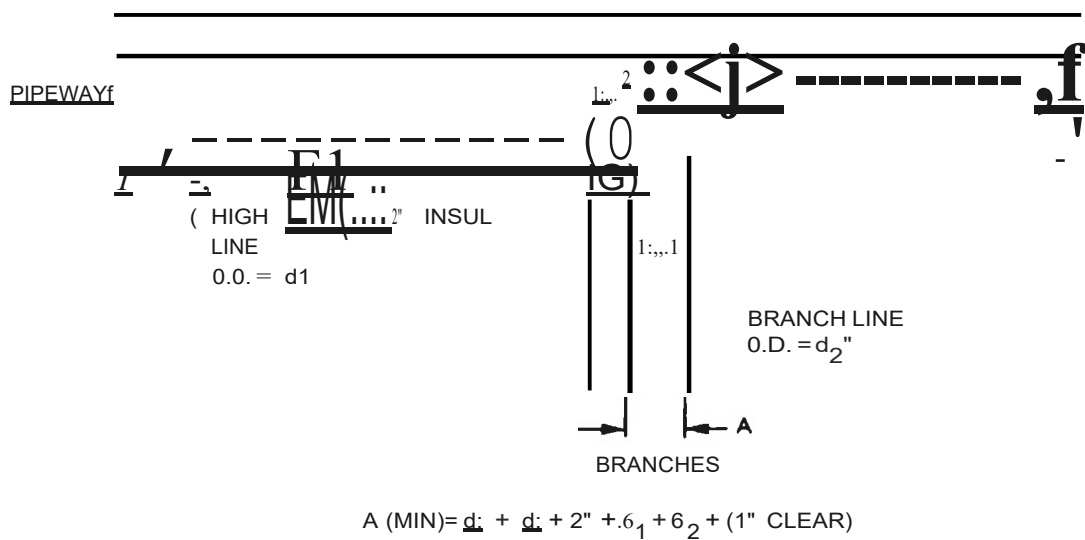

Figure 12-14,
Expansion of piping in pipeways can create clearance problems between adjacent branch lines connected to the pipeway. All branch lines are checked out for this interference as shown on Figure 12-14. Lines are never allowed to touch each other, therefore, after movements, lines should have a minimum of 1-inch clear. Sometimes cold springing of
- (8) Piping inlet and outlet manifolds to airfans (See P. S. A. Std. C-717 and C-718)
- (9) Instrumentation piping on vessels (See P. S. A. Std. C-706)
- (10) Providing adequate clearance between branch lines to high temperature headers and adjacent branches to headers of other services - See Figure 12-14
- (11) Stacked exchanger nozzle flexibility requirements - See P.S.A. Std. C-715